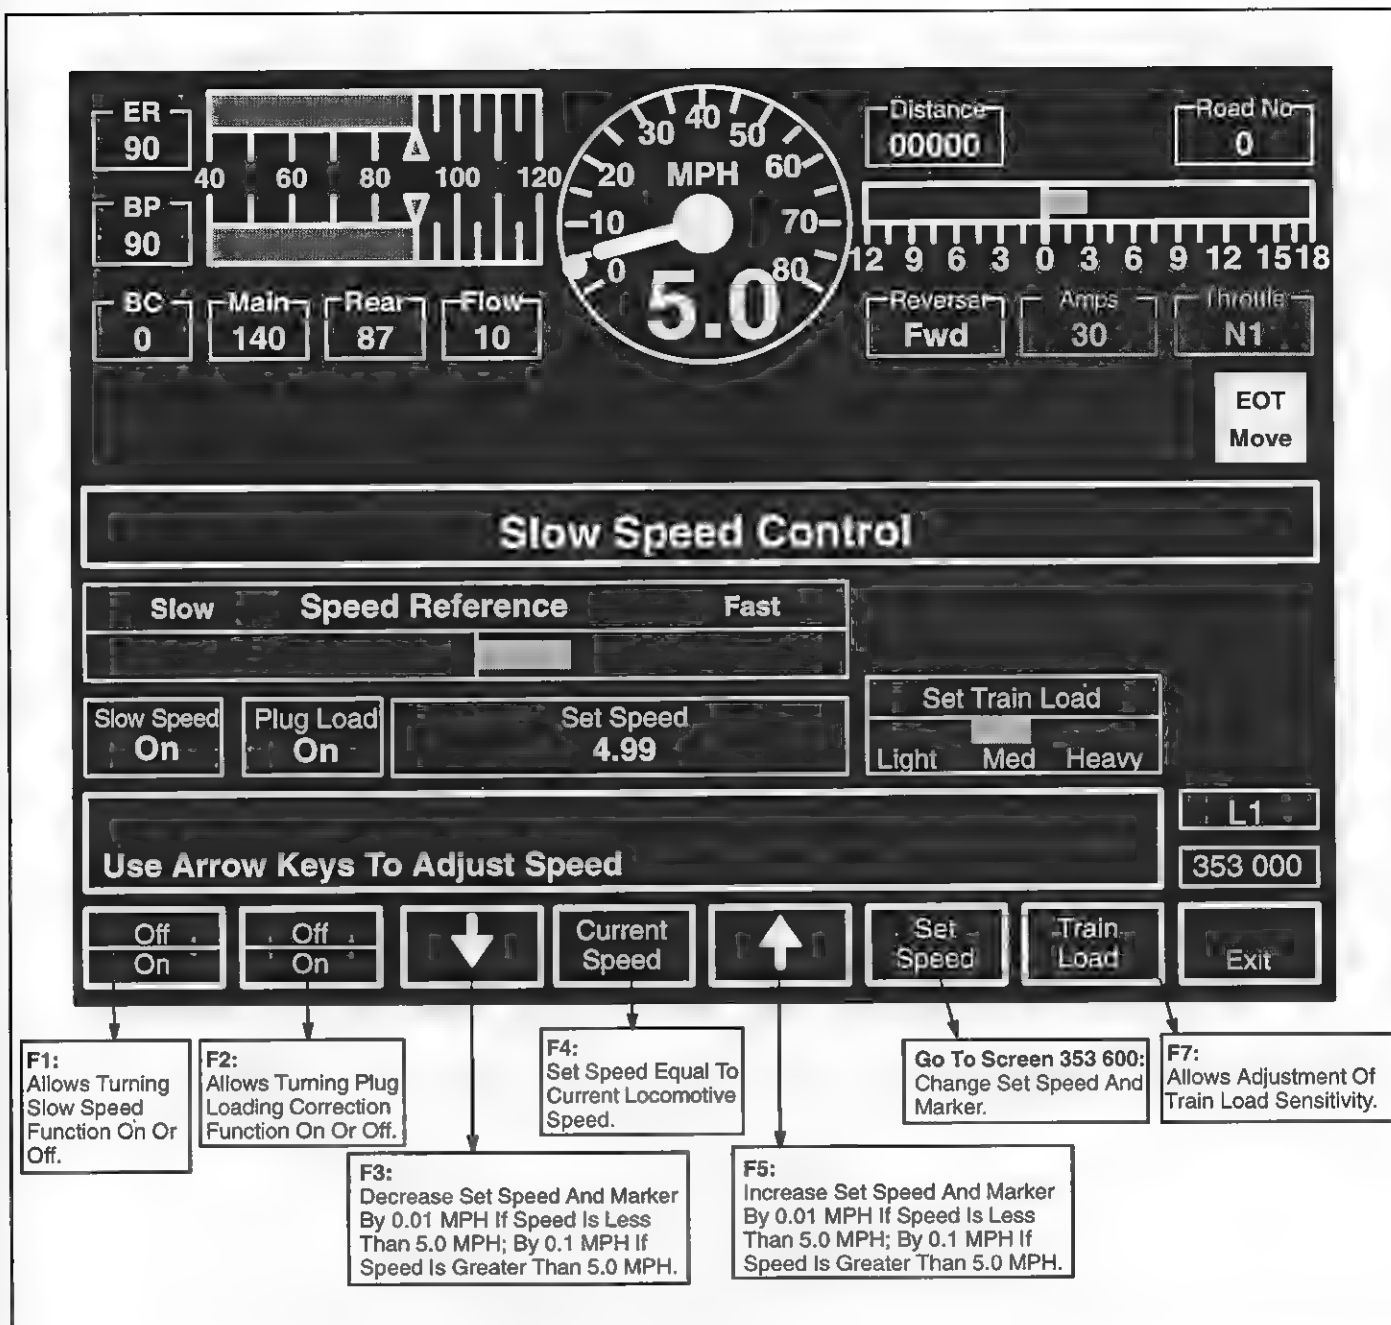

FIG. 44. SLOW SPEED CONTROL SCREEN (353 000). E-43467.
2. Pressing key position F3 (**Slow Speed Control**) will bring up screen 353 000 (see Fig. 44). This key is active if and only if the locomotive speed is less than or equal to 15.0 mph. Eight keys are active on this screen as follows: